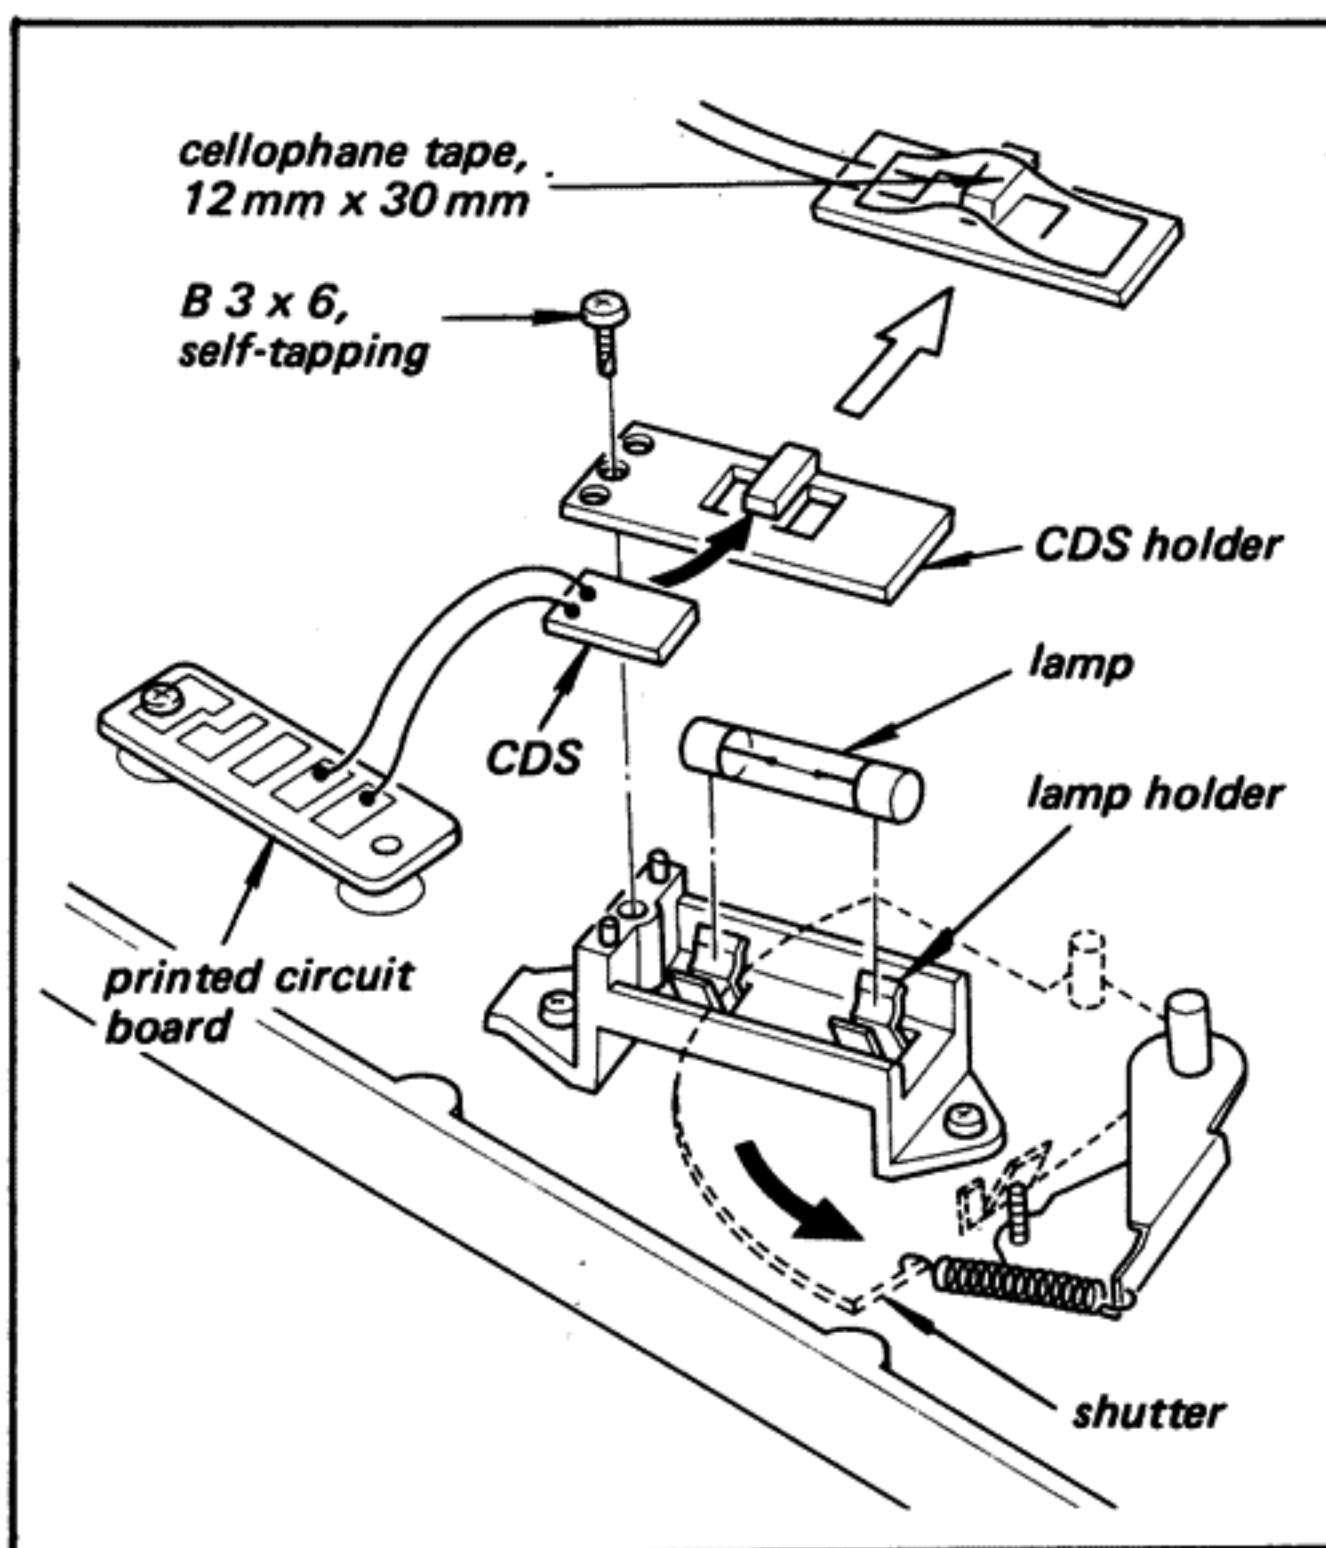

Fig. 2-10. CDS replacement
2. Unsolder the two lead wires of CDS at the printed circuit board as shown in Fig. 2-10.
3. Remove the CDS holder by removing the screw (B 3 x 6, self-tapping) shown in Fig. 2-10.
2. Remove the CDS holder by removing the screw (B 3 x 6, self-tapping) shown in Fig. 2-10.
3. Move the tonearm toward the turntable shaft to remove the shutter of the tonearm lever from the lamp holder as shown in Fig. 2-10.